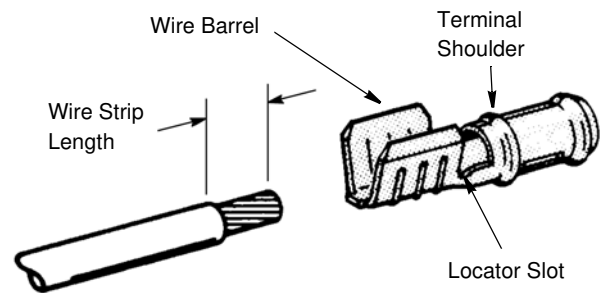

Figure 2
Hand Crimping Tool 90314-1 is designed to crimp the loose piece (LP) .058 Diameter Pin Receptacle terminal listed in Figure 2. Read these instructions thoroughly before crimping any terminals.
The terminal locator/wire stop has two functions. First, it positions the terminal in the crimping die, and second, it aids in locating the wire in the terminal. In use, it rests in the locator slot of the terminal (see Figure 2).
Refer to Figure 2 and select wire, or wires, of the specified size. If using two wires, note that each wire has a different strip length. Strip the wire(s) to the length indicated -- do NOT cut or nick the wire strands.